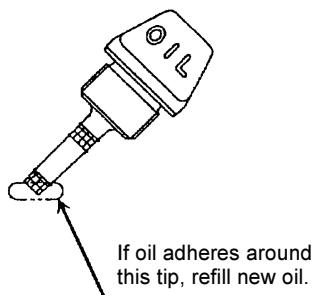
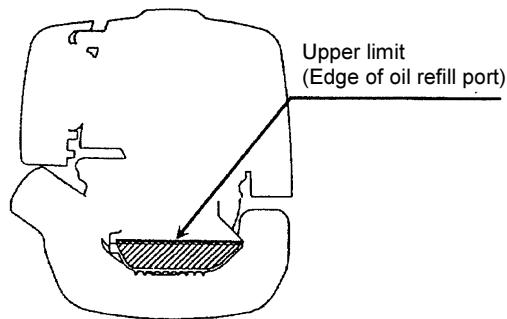

Fig.1
Fig.2
When the oil is in short in such a way that the oil gauge touches the oil only by its tip, in particular with the oil gauge remaining inserted in the crankcase without screwing-in (Fig. 1), refill new oil near the port (Fig. 2).
2) Fill oil up to the edge of the oil refill port. (Refer to Fig.2 of the preceding page).